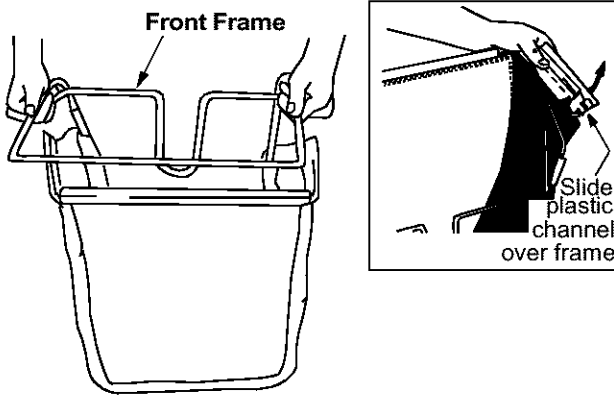

Figure 8
- Slide the front frame assembly into the rear frame as shown in Figure 8. Push the front frame in so that the cross piece on the front frame contacts the rear frame.
- Slip openings of the plastic channel on bag over the grass catcher frame. See Figure 8. Secure front of bag to front frame by working five plastic channels on bottom, sides and top of bag over frame.